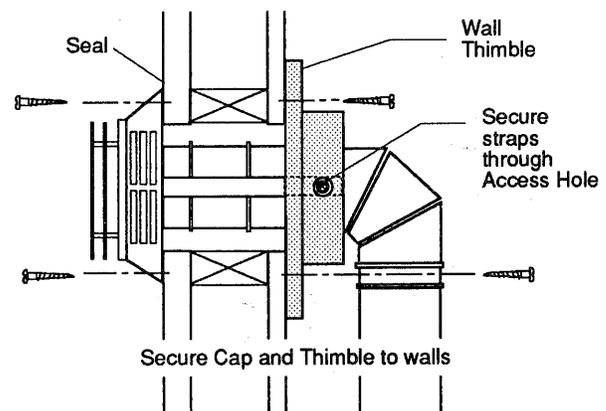

Figure 29. Secure the straps to the vent.
Step 6. Secure the Straps. Rotate the Wall Thimble around the elbow to provide access to secure the two mounting straps to the straight vent pipe. Attach the straps with the sheet metal screws supplied with the Vent Cap. Fig. 29.